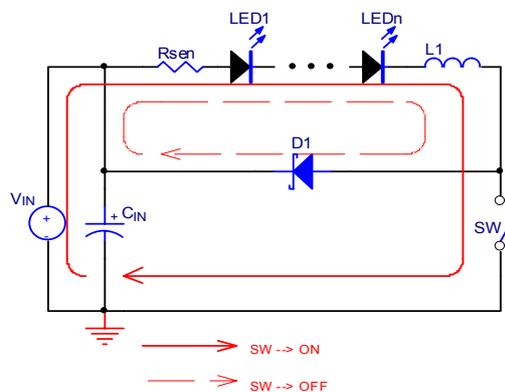

Figure 38. Power loop of MBI6650
9. When SW is on/off, the direction of power loop should keep the same way to enhance the efficiency. The sketch is shown as Figure 38.